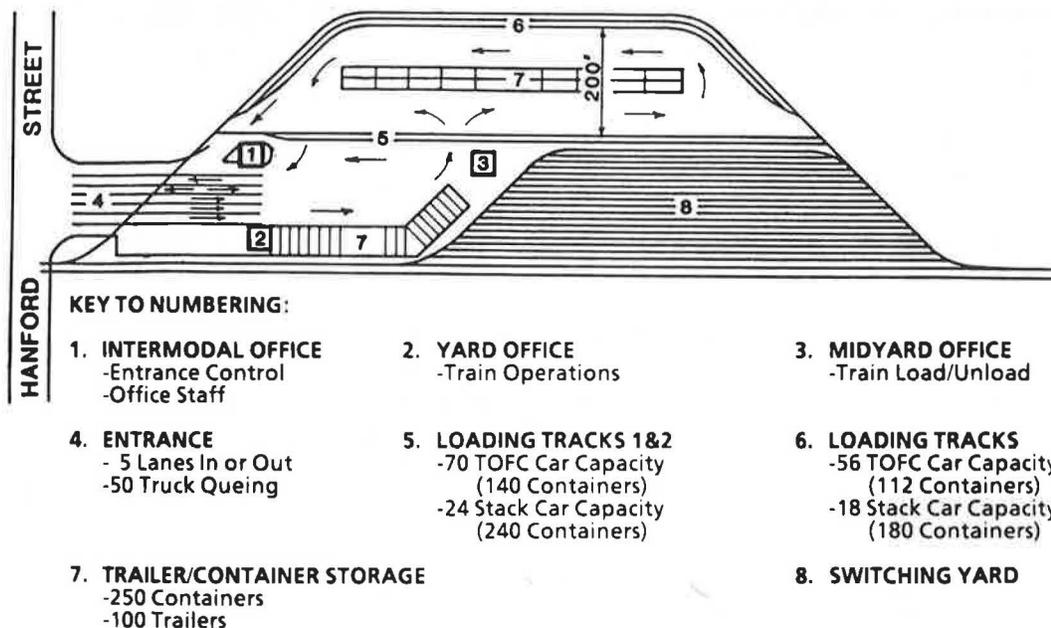

FIGURE 1. Seattle International Gateway: new yard capacity and operation
In December 1984, Burlington Northern Railroad (BN) decided to build a new container handling facility at Seattle, Washington. The project was begun in response to a growing intermodal market in the Pacific Northwest and the advent of new double stack equipment technology. The new facility is called the "Seattle International Gateway" (SIG; see Figure 1). This paper discusses the design, construction and performance of the Portland Cement Concrete Pavement used at SIG.